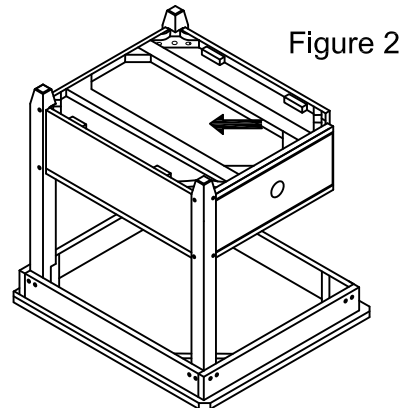

Figure 2
2. Put the shelf to the three legs. As Shown in Figure 2.